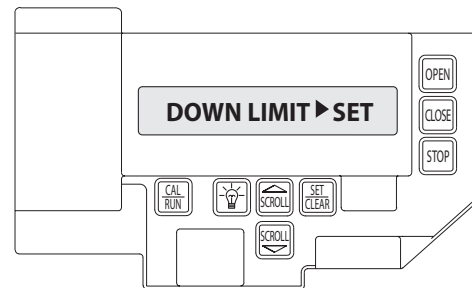

Figure 8
- 4) Press SET/CLEAR  key to switch display to "UP LIMIT>SET " or "DOWN LIMIT>SET ." **Figure 8.**
- 2) Press SCROLL  until display reads "UP LIMIT>SET " or "DOWN LIMIT>SET." **Figure 8.**